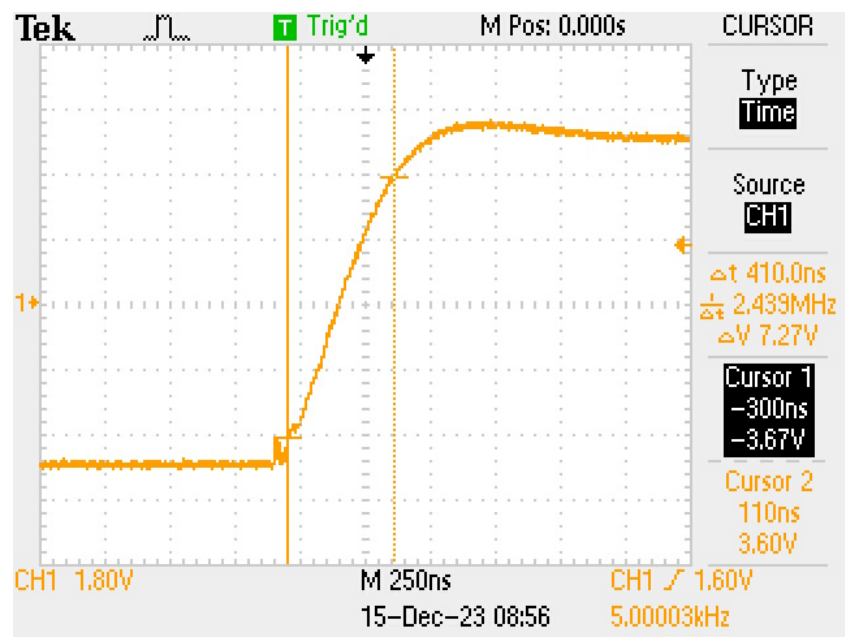

Figure 2.13: Rise Time Measurement
4. Zoom in on the rising edge of the waveform, see Fig 2.13
5. Measure the rise time at the -2 divisions (10%) and +2 divisions (90%), see Fig 2.13.